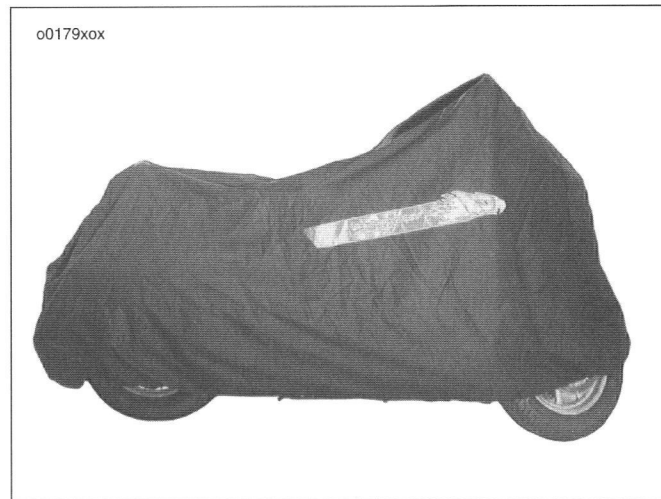

Figure 86. Screamin' Eagle® Motorcycle Cover
7. See Figure 86. If motorcycle is to be covered, use a material such as light canvas or the cover provided with the vehicle. Select a material which will breath. Plastic materials which do not breath promote the formation of condensation.